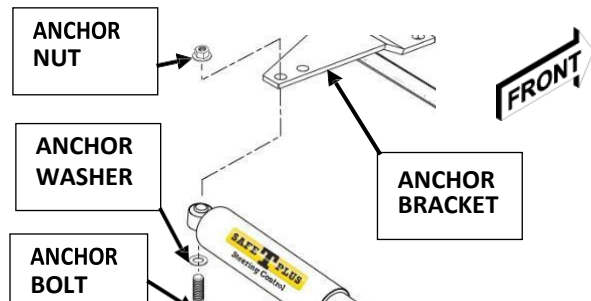

FIGURE 2. SAFE T PLUS INSTALL TO ANCHOR BRACKET
6. With **Anchor Bolt** threads facing up, loosely install large end of SAFE T PLUS® unit to the bottom of **Anchor Bracket** with **Anchor Bolt**, **Anchor Washer**, and **Anchor Nut** (Figure 2).